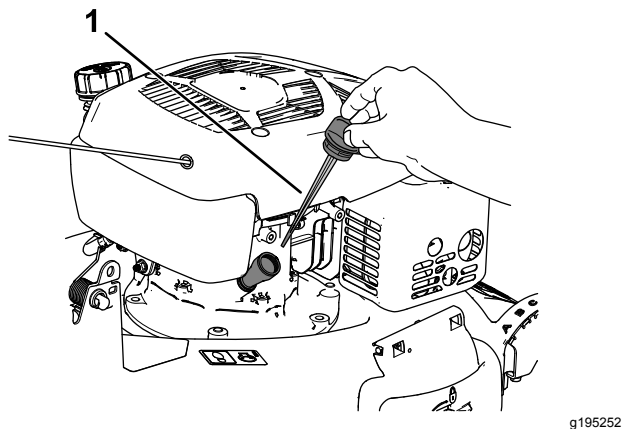

Figure 40
3. Remove the dipstick by rotating the cap counterclockwise and pulling it out (Figure 40).